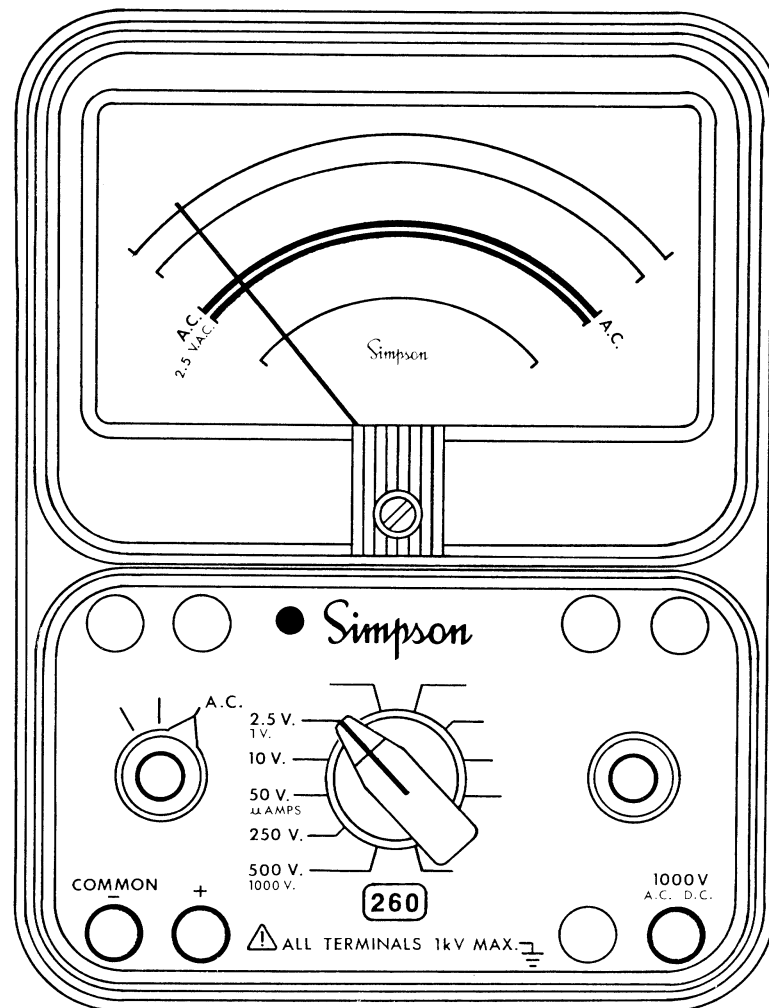

FIGURE 4-3. JACKS AND SWITCH POSITIONS
- Set the function switch at AC (Figure 4-3).
- a. Set the function switch at AC (Figure 4-3).